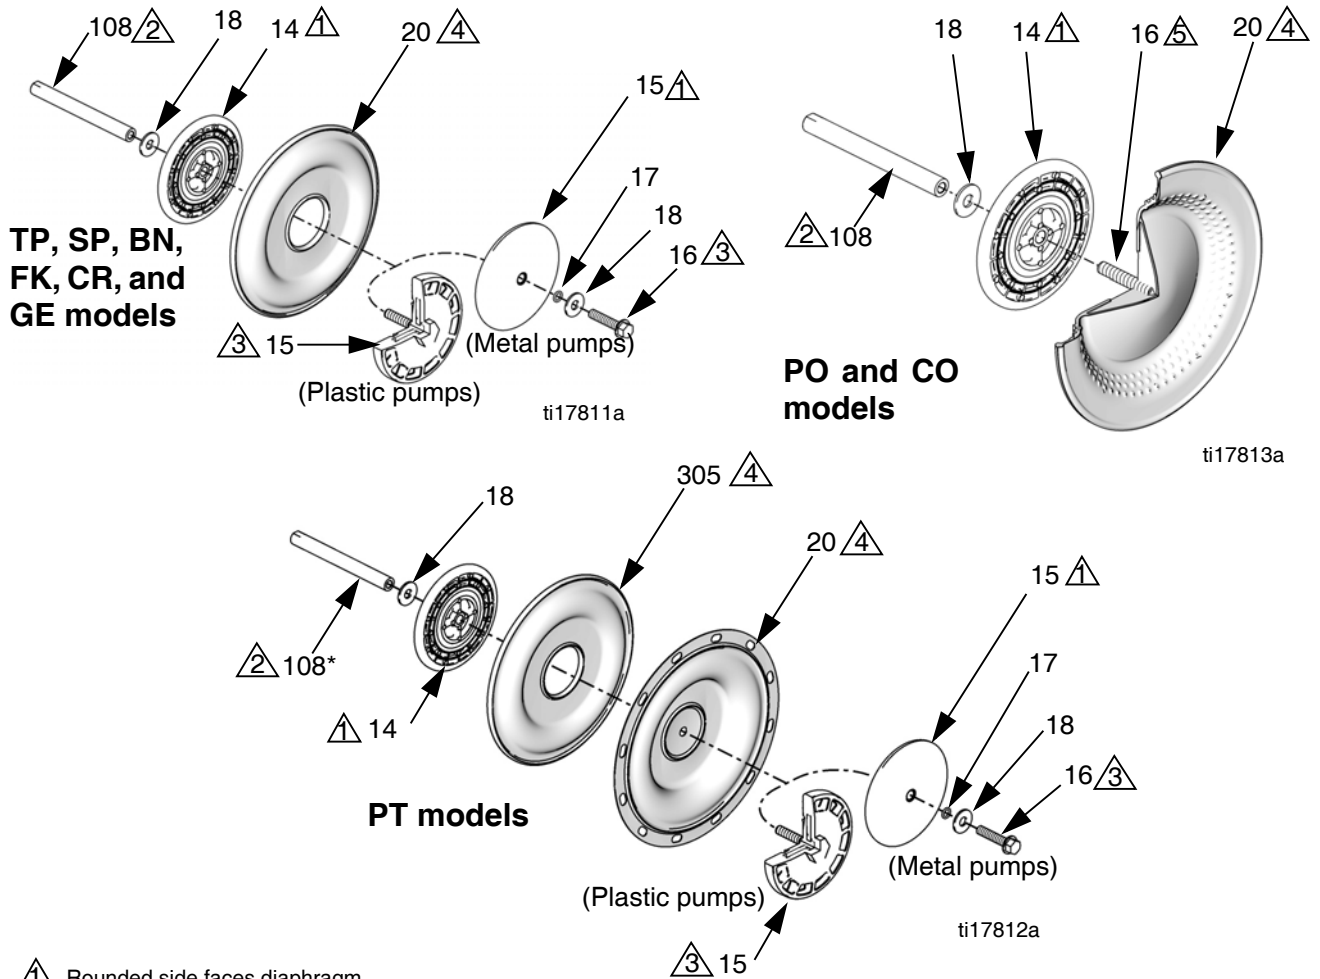

FIG. 7. Assemble diaphragms
- a. Orient the pump so one of the fluid covers faces up. Use a 3/4 in. (19 mm) socket wrench to remove the fluid cover bolts (36, 37), then pull the fluid cover (2) up off the pump.
- b. The exposed diaphragm (20) will screw off by hand. The shaft will either release and come off with this diaphragm, or remain attached to the other diaphragm. If the diaphragm shaft bolt (16) remains attached to the shaft (108), remove it. Remove the air side diaphragm plate (14) and washer (18).
- d. If the shaft is still attached to either diaphragm, grasp the diaphragm firmly and use a wrench on the flats of the shaft to remove. Also remove the air side diaphragm plate (14) and washer (18). Continue with Step 5.
- a. Orient the pump so one of the fluid covers faces up. Use a 3/4 in. (19 mm) socket wrench to remove the fluid cover screws (36, 37), then pull the fluid cover (2) up off the pump. Turn the pump over and remove the other fluid cover.
- b. **Plastic Pumps:** Hold the hex of one fluid side diaphragm plate (15) with a 1-5/8 socket or box end wrench. Use another wrench (same size) on the hex of the other plate to remove. Then remove all parts of the diaphragm assembly. See FIG. 7.
Metal Pumps: Turn the pump on its side. Hold one diaphragm shaft bolt (16) with a wrench, then use a 15/16 socket to remove the other bolt. Remove all parts of the diaphragm assembly. See FIG. 7, page 17.
5. Use an o-ring pick to remove the u-cup packings (101) from the center housing. Bearings (109) can remain in place.
6. If necessary, remove the pilot valves (110).
Follow all notes in FIG. 7. These notes contain important information.
3. For metal pumps, install the washer (18) and o-ring (17) on the shaft bolt (16).
4. Assemble the fluid side plate (15), the diaphragm (20), the backup diaphragm (305), the air side diaphragm plate (14), and the washer (18) on the bolt exactly as shown in FIG. 7.
5. Apply medium-strength (blue) thread locker to the bolt (16) threads. Assemble into shaft. Torque the bolt to 110 -120 ft-lb (149-163 N•m) at 100 rpm maximum.
8. Apply medium-strength (blue) thread locker to the bolt (16) threads. Screw the bolt into the shaft hand tight.
1. Install the washer (18) and o-ring (17) on the shaft bolt (16).
2. Assemble the fluid side plate (15), the diaphragm (20), the air side diaphragm plate (14), and the washer (18) on the bolt exactly as shown in FIG. 7.
3. Apply medium-strength (blue) thread locker to the bolt (16) threads. Screw the bolt into the shaft hand tight.
7. Reattach one fluid cover (2). Arrow (A) must point toward the air valve. See **Torque Instructions**, page 20.
1. Assemble the diaphragm (20), the air side diaphragm plate (14), and the washer (18) on the fluid side plate (15) exactly as shown in FIG. 7.
6. Reattach one fluid cover (2). Arrow (A) must point toward the air valve. See **Torque Instructions**, page 20.